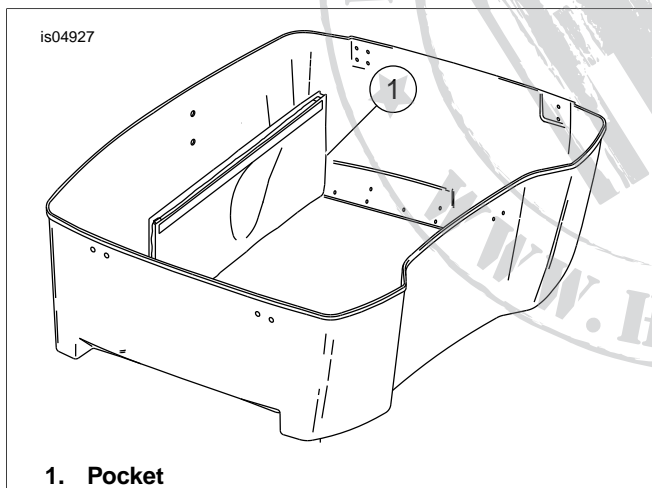

Figure 2. Remove Pocket from Tour-Pak
9. See Figure 2. Carefully remove any pockets that are installed to backside of Tour-Pak and discard.